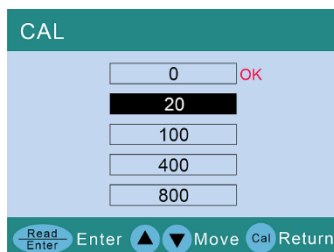

Figure 8.2
- f) Press **MEAS/ENTER** to start 0 NTU calibration. After calibration is done, the instrument will return to the calibration menu (see Figure 8.2). The "OK" sign indicates that the 0 NTU has been calibrated and prompt to calibrate 20 NTU.